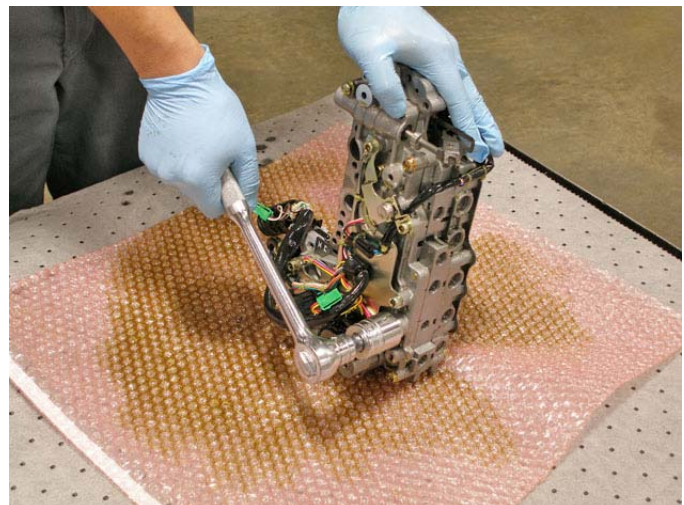

Figure 13
10. On a clean and lint-free surface, stand the valve body on-end and hold it as shown in Figure 13.